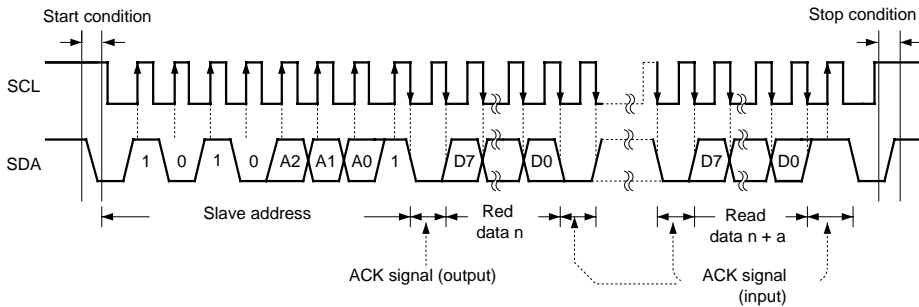

Fig.16 Sequential read cycle (BR24C01A / AF)
- When an ACK signal LOW is detected after D0 and a stop condition is not sent from the master (μ -COM), the next word address data can be read. [All words all read enabled] (See Figures 16 to 18 for the sequential read cycles.)
(9) Random read
(10) Sequential read